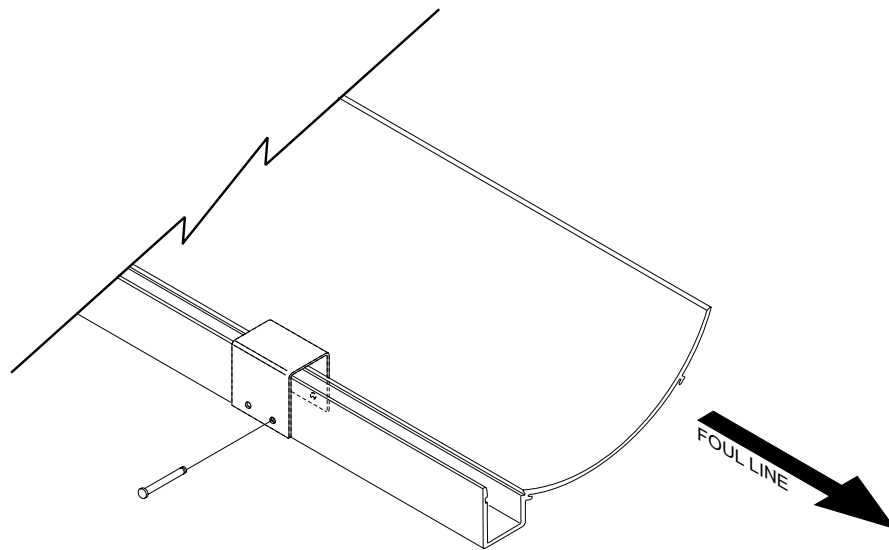

Figure 5
6. Temporarily place a pivot pin through the first hole of the drill fixture and the hole in the gutter to maintain proper position of the drill fixture. Refer to *Figure 5*.